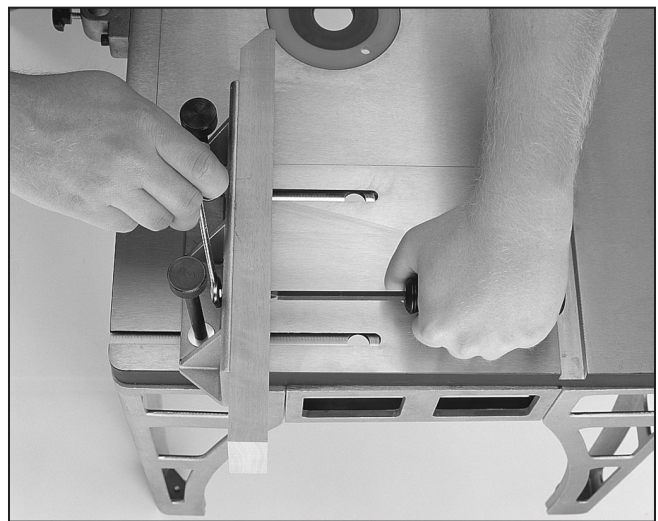

Figure 5. Attaching the wood facing.
Step 2 - Attach the wood facings to the fence using the flat head screws, flat washers and hex nuts provided. **Figure 5**. Tighten for now; however, you will notice that there are slots in the back of the fence for side to side adjustment. Side to side adjustment of the wood facings is dependent upon the overall diameter of the router bit. For maximum safety and support, adjust the wood facings as close to the router bit as possible. Check clearance before starting the router.